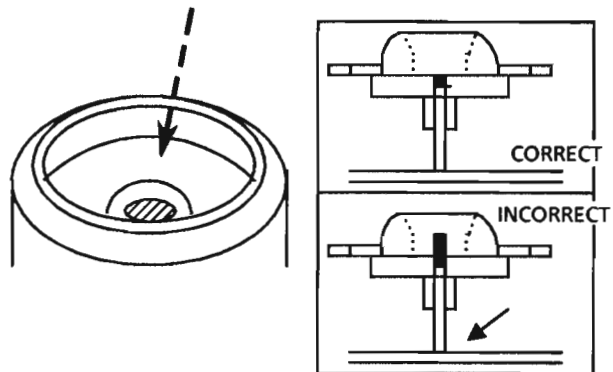

Fig. 9
4. After inserting the turntable, bond the motor shaft and turntable together (at the section marked by an arrow in fig.9 on the left below).
5. Use "LOCKTITE" #460 bonding agent, and apply as little as possible. Take care not to allow any excess bonding agent to get onto the turntable. Be extremely careful not to allow bonding agent to adhere to the motor bearings (the section marked by an arrow in fig.9 on the right).